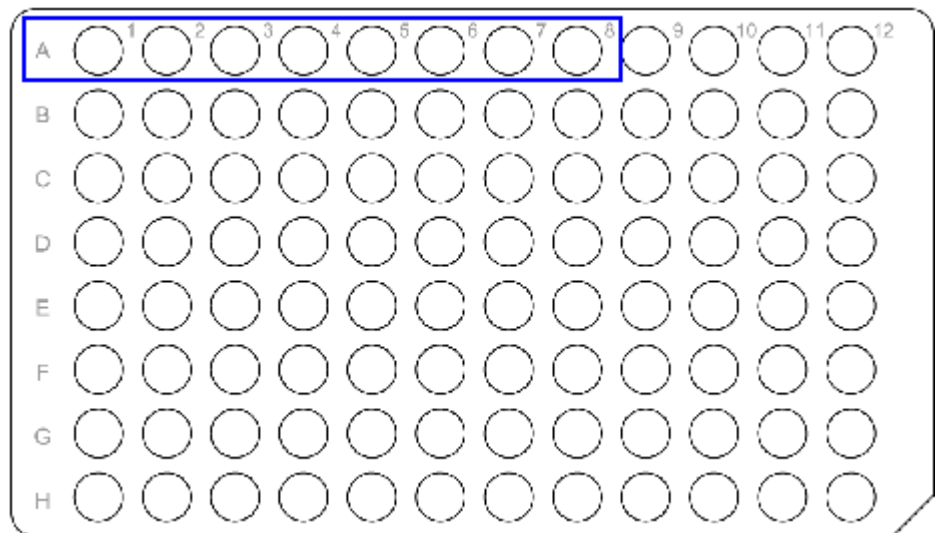

Figure 2 Plate marking.
1. Mark 96-well plate (Table 2, Figure 2).